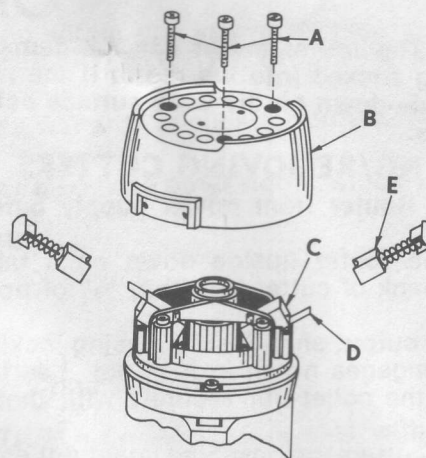

Fig. 3
1. Remove three screws (A) as shown in Fig. 3 and lift end cap (B) from router.
2. Lift brush tube (C) out of its nest enough so that tabs (D) can be bent out to permit removal of brush assembly (E).
1. Remove end cap as shown in Fig. 3.